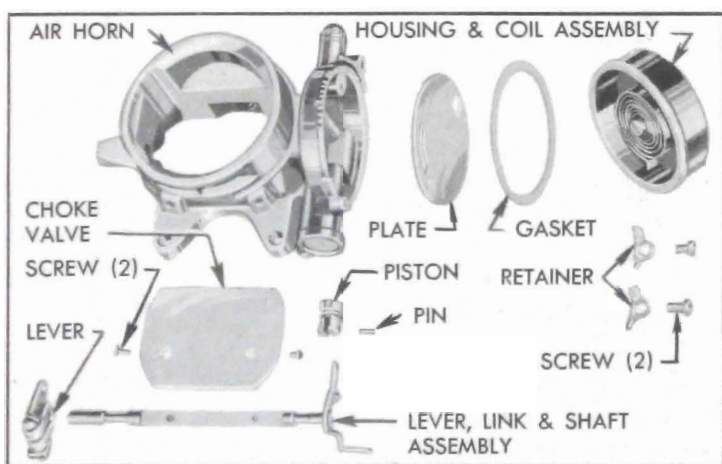

Figure 3-27—Air Horn and Climatic Control—Disassembled
4. Remove thermostatic housing and coil assembly, gasket, and baffle plate from air horn. See figure 3-27.
6. Rotate shaft to disengage piston from its cylinder. Remove choke shaft and lever assembly with piston attached. Remove piston pin and piston from link. See figure 3-27.
4. Remove dust cover. Rotate eyes of metering rods off pins on vacuum piston link and lift rods out, using care to avoid bending them. See figure 3-27.